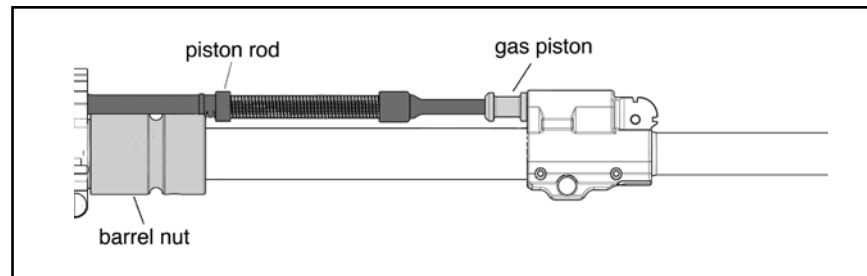

Fig. 56 – Lubrication of the Gas Piston, Piston Rod, and Barrel Nut Exterior
1. Apply a medium coat of CLP on the gas piston and operating rod (Fig. 56)